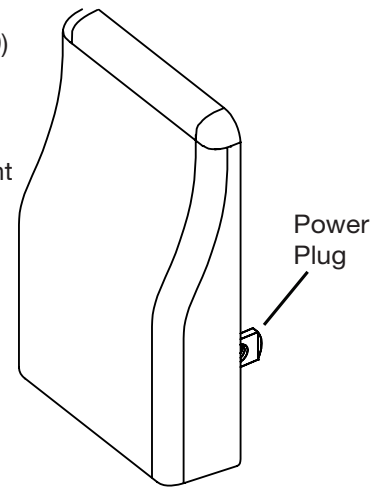

Figure 26. Wireless Repeater
3. Pairing 20/40/60 Minute Wireless Timer (435248) with Two-Speed Switch with Humidity Sensor (435245) and Two-Speed Switch with Intermittent Mode (435246): Press the left and right buttons simultaneously on the control  and  buttons). The bottom row of three LEDs will begin flashing. This indicates that the main control is now in pairing mode (Figure 26, Box E).
1. Separate the face plate from the back plate by firmly pulling apart (Figure 26, Box A).
2. For mounting the control without a decorative plate, break off top and bottom tabs and refer to Figure 26, Box C for mounting.
3. Place the back plate of the control in the desired location on the wall and pencil mark the top and bottom screw holes (Figure 26, Boxes B or C). Drill two 1/8" (3 mm) holes.
5. Attach the face plate to the back plate (Figure 26, Box F).